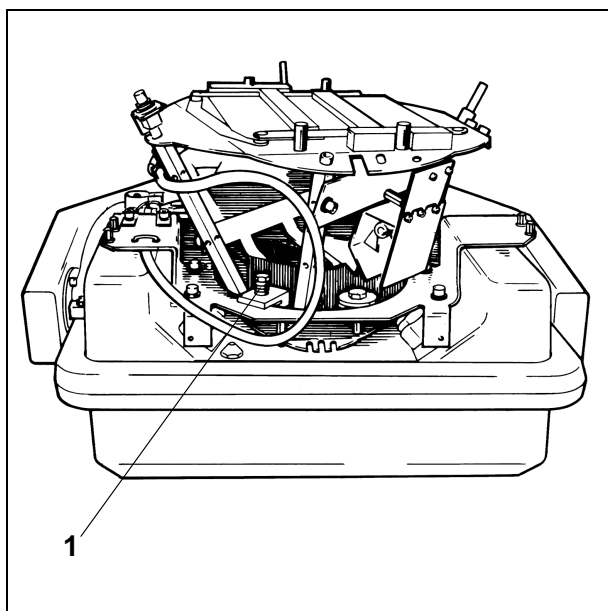

Fig. 9
- Adjust the collimator movement resistance with the screw (1) (Fig. 9).